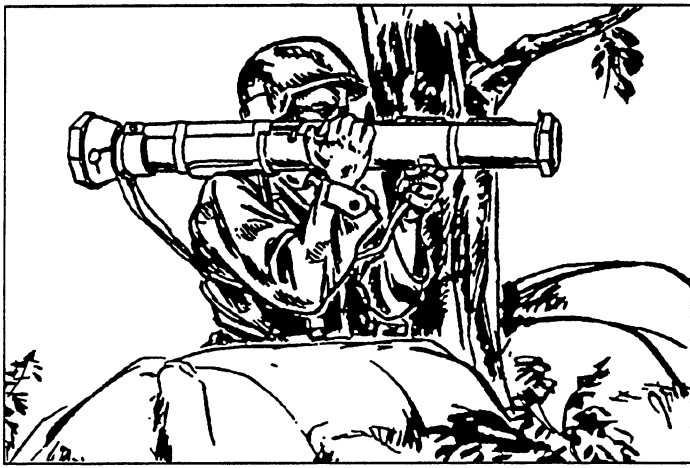

Figure 14-32.—Shoulder the weapon.
- Press the shoulder stop against your shoulder (fig. 14-32). For added stability, grasp the carrying sling near the muzzle with your left hand and pull back on the carrying sling until the shoulder stop is snug against your shoulder.